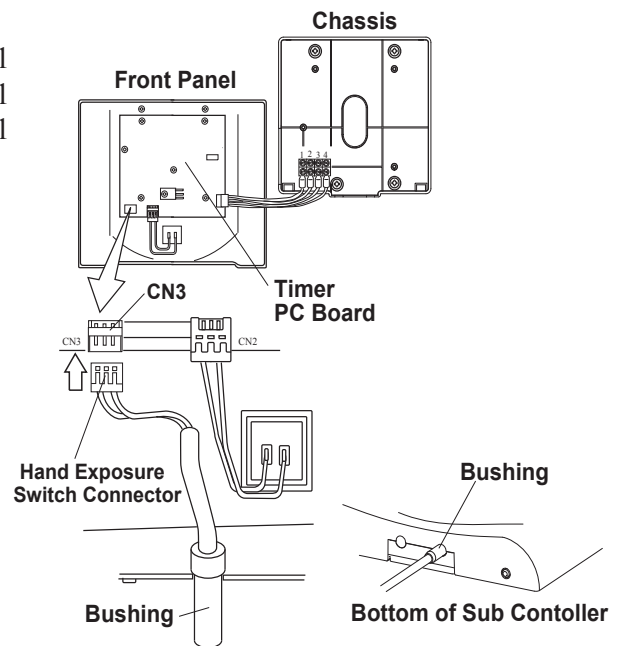

Fig.3-24 Connecting Hand Exposure Switch
3. Connect the connector at the end of hand exposure switch coil cord to CN3 connector on the timer PC board. (Fig.3-24)
4. Insert the bushing of coil cord into the slot at the bottom of the chassis, reattach the front cover and secure two (M3 x 8mm) screws again. (Fig.3-24)